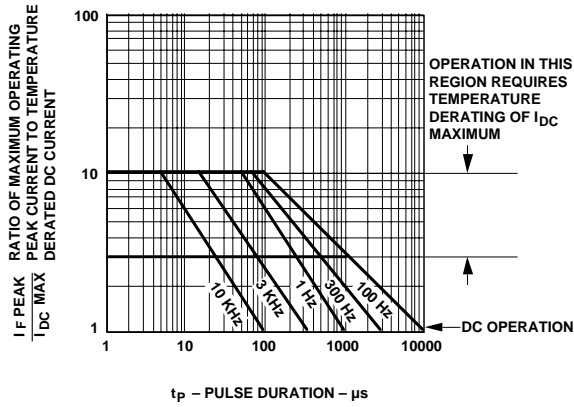

Figure 5. Maximum Tolerable Peak Current vs. Pulse Duration - HER, Orange.
1. See Figure 5 to establish pulsed conditions.